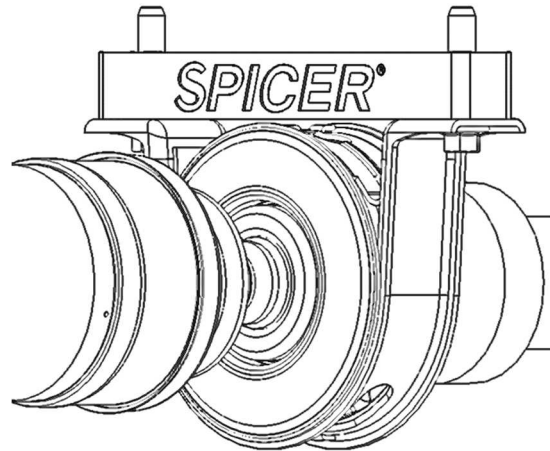

Figure 2
- 5) Install the bolts included with this kit (that had blue Loctite applied to them in Step 2), using a 13 mm socket. (Refer to Figure 2)